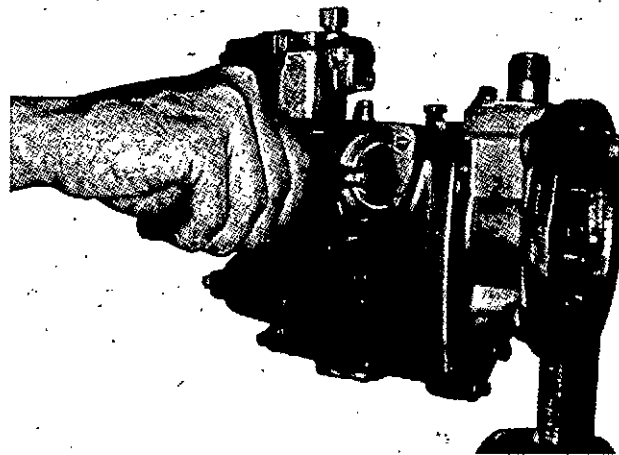

Fig. 2-13, (F5304). Install the AFC barrel retaining ring.
3. Press the barrel into the housing. Install the flat retaining ring, Fig. 2-13.